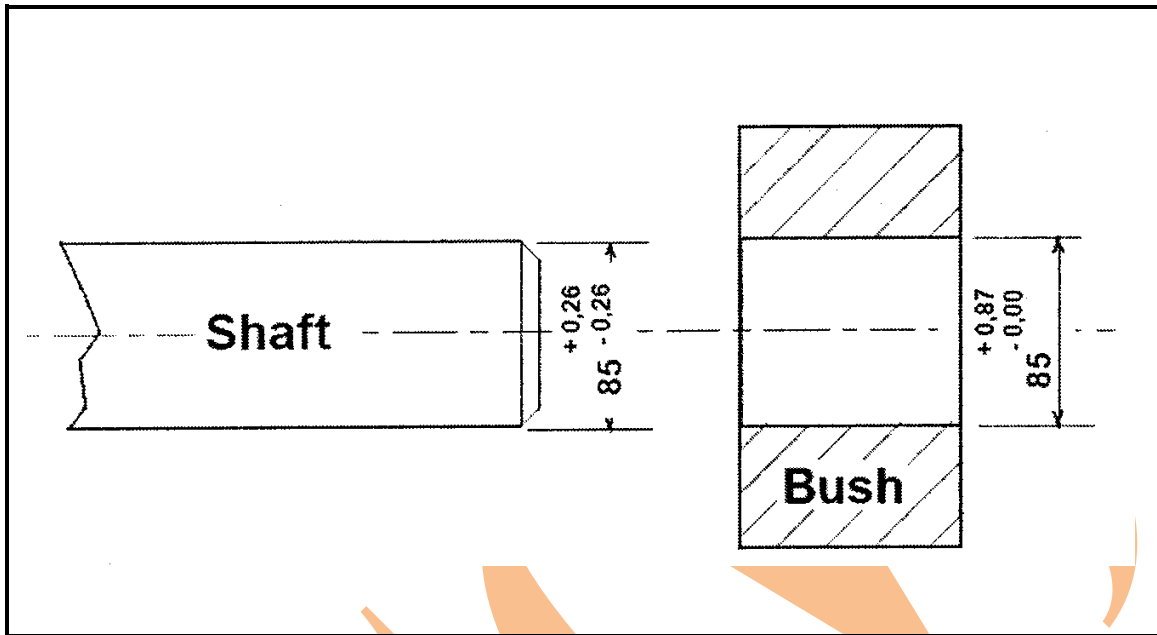

FIGURE 2
- 1.6 The bush and the shaft have to be machined according to the given dimensions as shown in FIGURE 2 below.